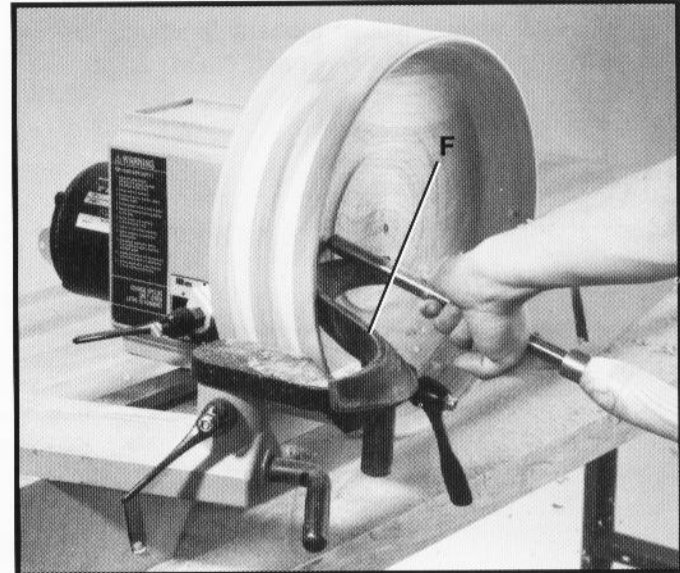

Fig. 91
5. As the inside turning operation becomes deeper, it may be necessary to use the accessory 46-404 French Curl Tool Rest, shown at (F), to position the tool rest as close as possible to the workpiece as shown in Fig. 91.